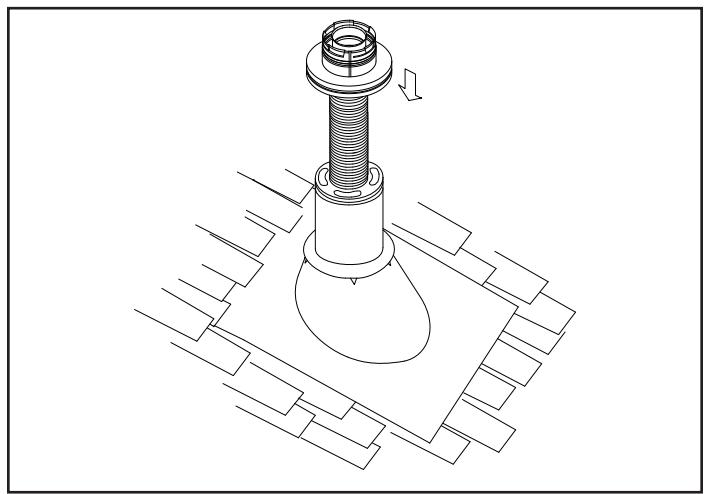
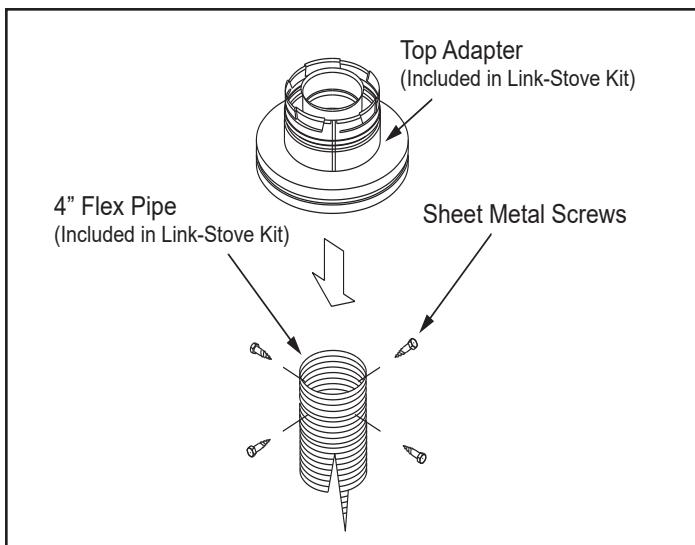

Figure 3.22
Figure 3.23
4. Pass the flex pipe down through the center of the chimney system, and center the top adapter on the top of the chimney pipe. Drill four 1/8 in. (3mm) diameter holes through the top adapter, and into the chimney top. Ensure that you are drilling into the metal on the chimney. Twist lock the high wind termination cap onto the top adapter. See Figure 3.22 and Figure 3.23.